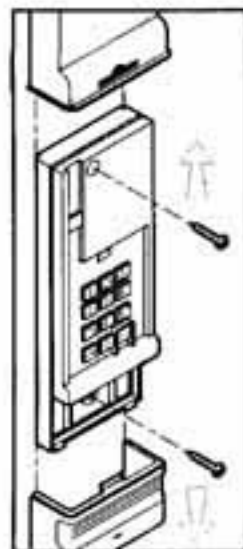

Fig. 2
- Step 1-2** Slide Keypad Cover up and pull off Wireless Keypad. Slide off battery cover and remove battery **Fig. 2**.